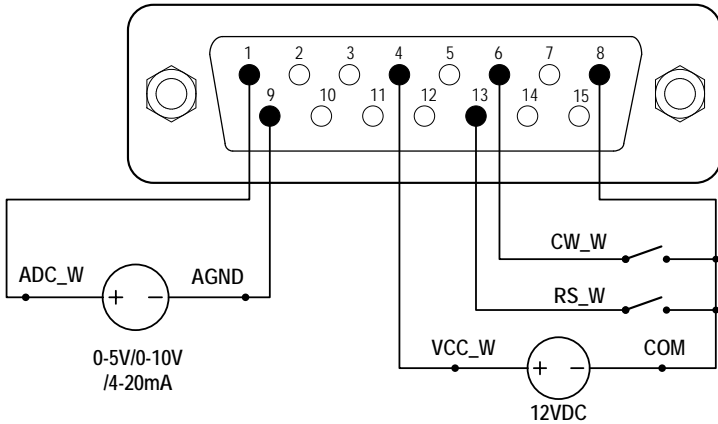
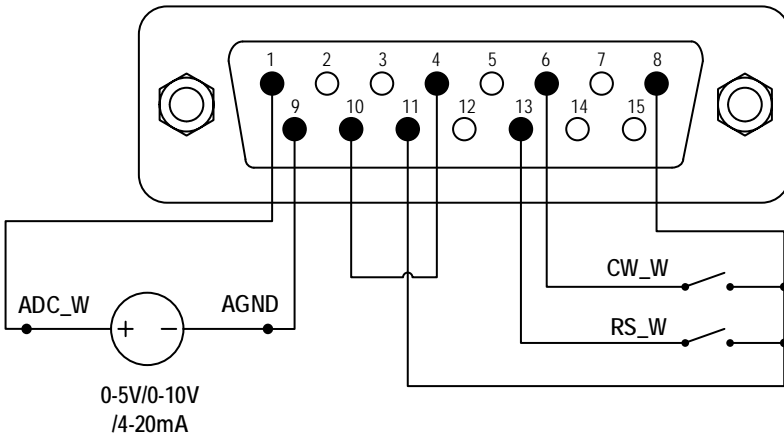

Figure 13. External Control with External 12VDC Power Source
Figure 14. External Control with Internal 12VDC Power Source
- 1) Switch the power of the pump off. Wire the DB15 connector as shown on Figure 13 or Figure 14, and connect it to the DB15 port on the rear of the pump.